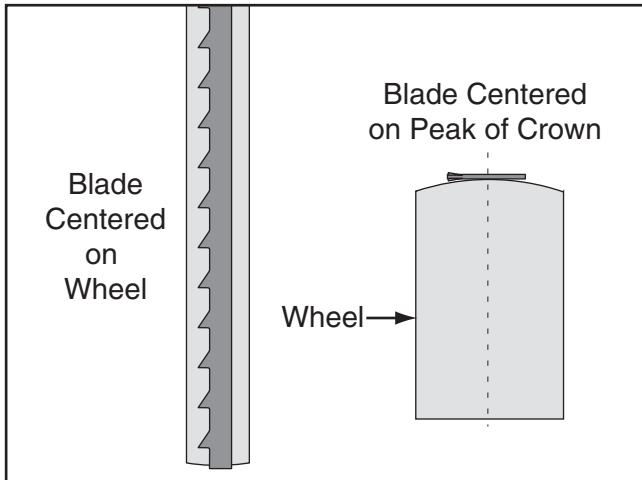

Figure 12. Blade center tracking profiles.
6. Rotate the upper wheel by hand several times (at least three) and watch how the blade rides on the wheel crown. See **Figure 12** for an illustration of this concept.